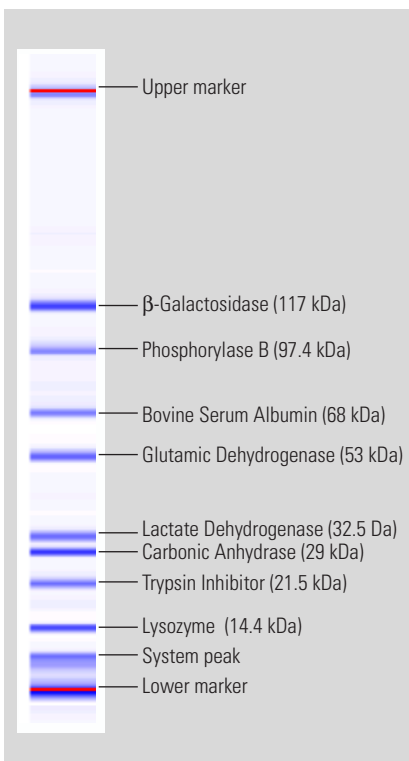

Figure 1
- The gel-like image in figure 1 shows the name and sizes of the proteins used by the Agilent 2100 bioanalyzer to establish a standard curve to size proteins with 10 % resolution.